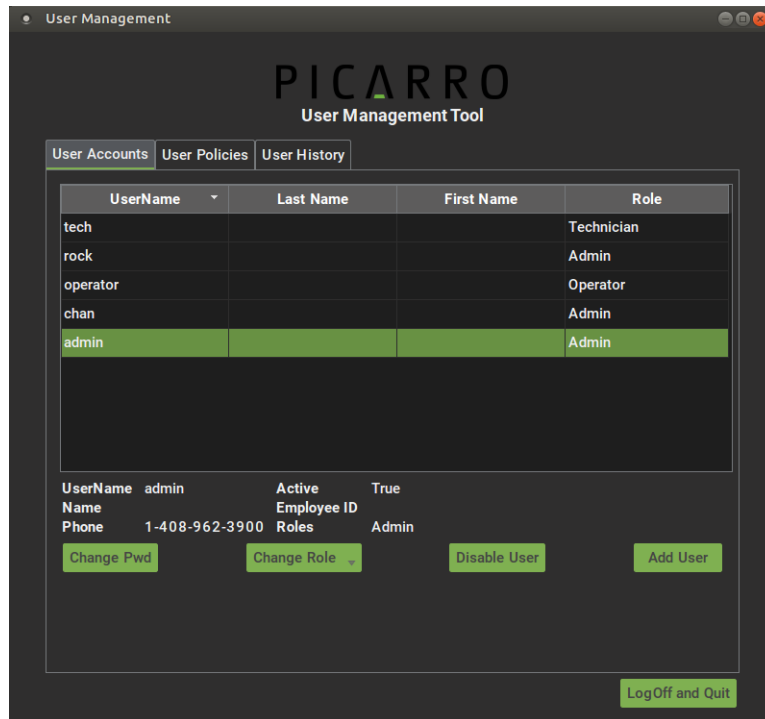

Figure 38 - User Management/User Accounts Tab
3. From the Tools menu, select **User Administration** to view the User Management as shown in Figure 38.